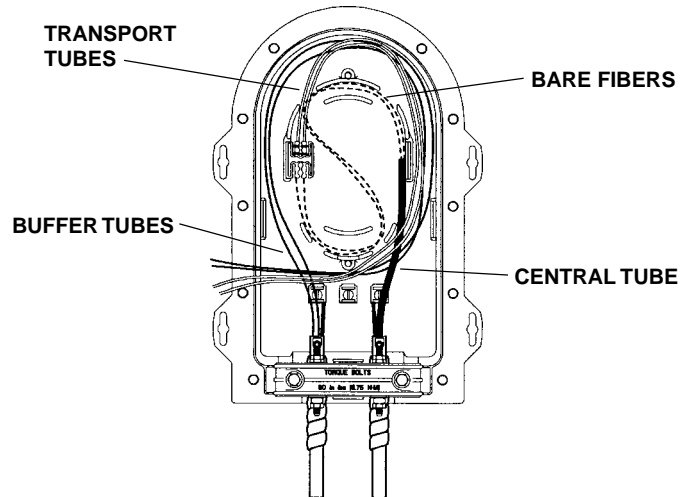

FIGURE 22 - ROUTING FOR LOOSE TUBE/UNITUBE SPLICES
9.01 If one of the cables is a unitube cable and the other cable is a loose tube (buffer tube) cable, install the loose tube cable in the left cable entry to avoid crossing buffer tubes through the center chamber. (Figure 22)